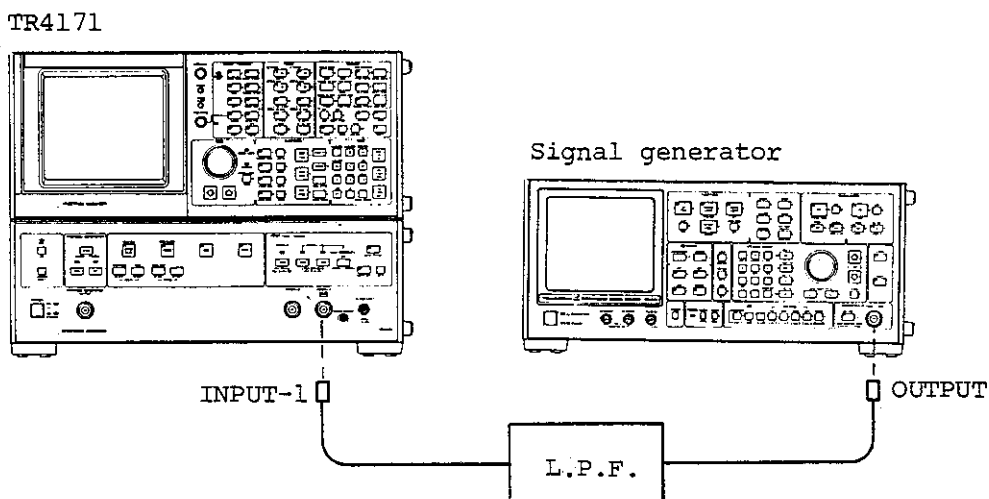

Fig. 12-9 Harmonic distortion test setup
- ① Set up test system as illustrated in Figure 12-9. Set LPF output level to -30 dBm. (Harmonic must be at most 85 dBc.) Set the TR4171 center frequency, frequency span, resolution bandwidth, and reference level to appropriate values. Set input attenuator to 0 dB. Apply signal to INPUT-1 connector and verify harmonic level is equal to or less than -110 dBm. Conduct the same check for 1 M Ω input with input terminated by a 50 Ω feed through terminator.
- ② For the high sensitivity mode test, set LPF output level to -60 dBm, and set the TR4171 input attenuator to 0 dB. Verify harmonic level is at most -120 dBm.